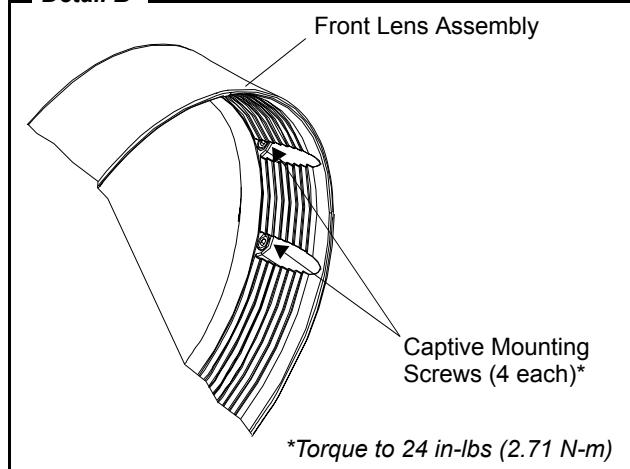

Figure 1: Front Lens Assembly and Captive Mounting Screws
- When installing the front lens (all versions) assembly (as shown in **Figure 1**), the captive screws in the assembly should be properly positioned in their corresponding mounting holes and torqued to **24 in-lbs (2.71 N·m)**.